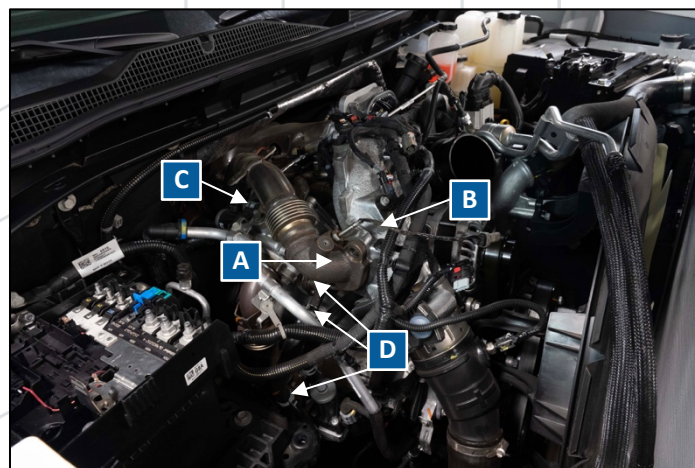

Figure 18: EGR Assembly
**25. Unbolt EGR cold tube from upper Intake manifold 13mm hex head bolt x2 (labeled as A and B in Figure 18).**
**26. Un plug EGR bypass valve (labeled as C in Figure 18).**
**27. Remove EGR Cooler coolant bleed line 10mm hex head bolts x2, spring clamps x2 (labeled as D in Figure 18).**